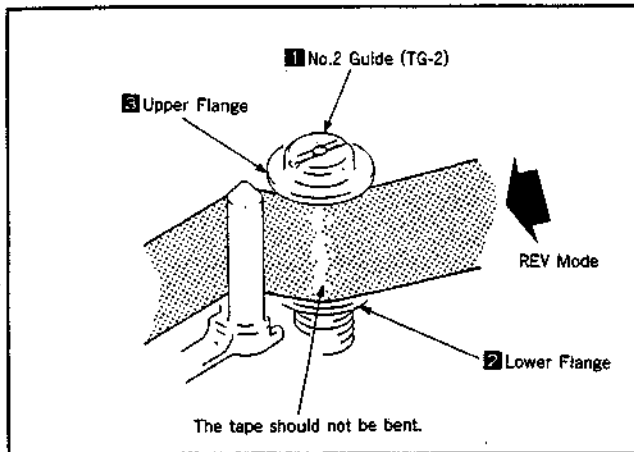

Fig. 39
4-3-2. No. 2 GUIDE (TG-2) ADJUSTMENT (Fig. 39, 40)
- 2) Confirm that the tape is not bent at the lower flange ② of the No.2 guide (TG-2) ① (Fig. 39). If it is, turn the upper flange ③ of the No.2 guide (TG-2) clockwise with a screwdriver, lowering it until the tape is straightened.